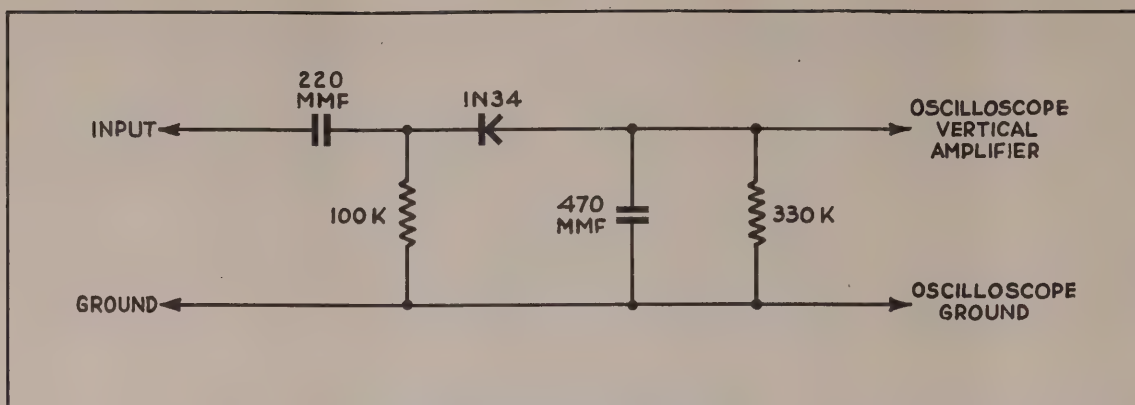

FIG. 17 HIGH FREQUENCY OSCILLOSCOPE PROBE
Many manufacturers provide decoupling networks in the tuner section to which an oscilloscope may be connected during alignment. On other receivers the oscilloscope must be connected across one of the detectors or to the plate of the converter tube. The latter method requires some means of demodulation. The circuit of an easily constructed crystal demodulator is shown in Fig. 17.
Another alternative is to use a high frequency probe (such as that shown in Fig. 17) connected to the plate of the Converter tube through a 10 MMF condenser and the Model 479 Output cable connected at the same point through another 10 MMF condenser. With this method the AM Generator tuner is set to the RECEIVER OSCILLATOR frequency and adjusted for "zero beat" indication on the oscilloscope. The RECEIVER OSCILLATOR frequency is determined by adding the Sound IF to the Sound Carrier frequency. Thus the Oscillator frequency for Channel 13 of the receiver under discussion would be $215.75 + 21.25 = 237$ MC.
The High Frequency Oscilloscope probe shown in Fig. 17 provides an excellent means for tracing the signal through an FM or TV receiver. The HF Probe is essentially a high frequency detector and may be used to pick up the signal from any part of the system where high frequencies exist.
8. Connect a high frequency probe (Fig. 17) to the signal input jack and connect it to the Output cable termination box using OPEN TERMINATION (Table 2).